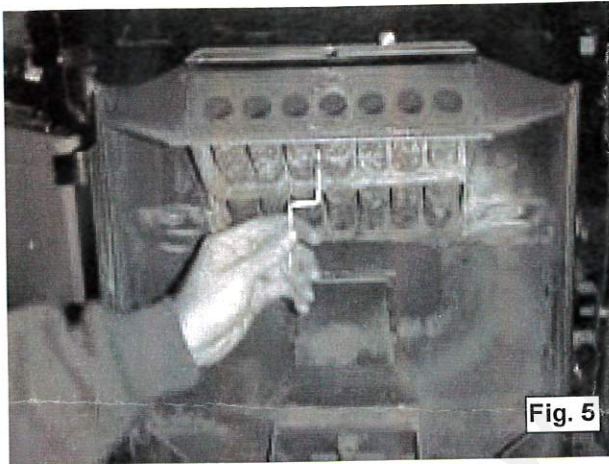

Fig. 5
5. With the scraper plate back at the bottom, maneuver the offset wrench sideways and in-between the 3rd and 4th tubes from the left of the stove as shown in fig 5. Slide the offset wrench up towards the front of the heat exchange tubes and thread the new scrapper rod into place.